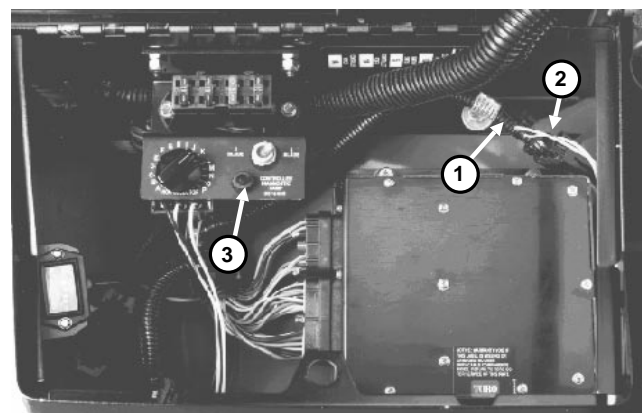

Figure 7
2. Carefully disconnect loop-back connector from wire harness (Fig. 7).